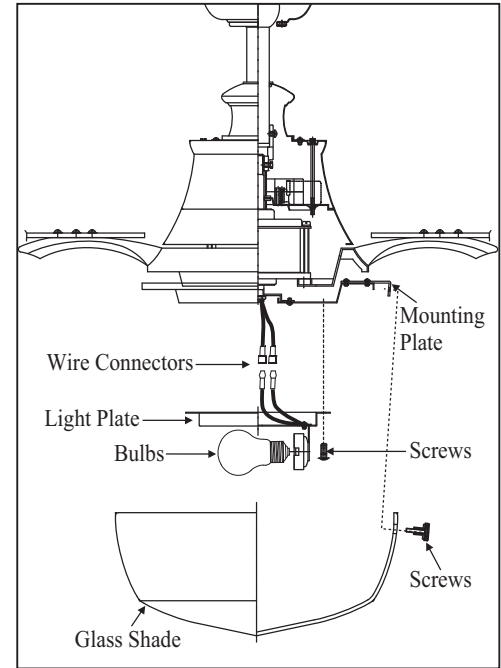

Figure 17
2. Carefully push all wires back into the mounting plate, then install the light plate onto the mounting plate with 3 screws provided. Be sure to tighten all screws. (Fig. 17)
4. Install the glass shade assembly to the mounting plate with screws provided. (Fig. 17)